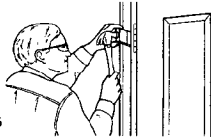

Fig. 7
6. From the inside, level and shim the hinge jamb. Place shims behind each hinge (Fig. 7). Be sure the hinge jamb is level in both directions and is square in the opening.